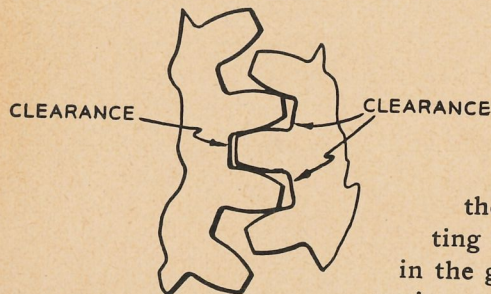

FIG. 6
When setting up the gear train, be sure to allow sufficient clearance between two meshing gears (Fig. 6). Gear clearance does not reduce the accuracy of a thread cutting operation, because all play in the gears is taken up in one direction. A method often used to obtain proper gear clearance is: (1) Place a sheet of thick writing paper between the teeth of the two meshing gears, (2) tighten gears in position, and (3) remove paper. A small amount of grease, preferably graphite grease, applied to gear teeth will often aid in obtaining smoother, more quiet operation.